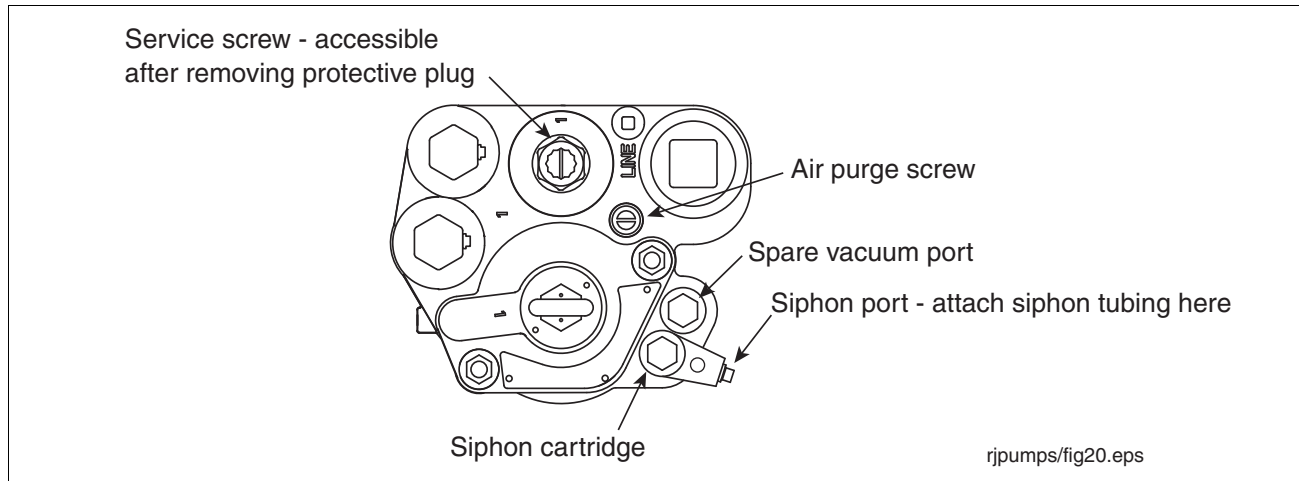

Figure 32. Siphon Connection
The siphon port for The Red Jacket STP is in a siphon assembly that fits into one of the two vacuum ports (see Figure 32). The port end can be swiveled after loosening the hex on top to accommodate the incoming siphon tube. Torque the siphon assembly to 15-30 ft-lbs (20-41 N•m) after positioning.
2. Open the air purge screw 2 - 3 turns counterclockwise (see Figure 32).